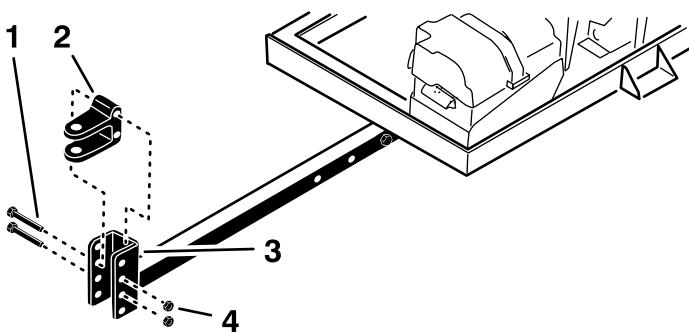

Figure 5
- Remove the 2 bolts and 2 locknuts securing the hitch clevis (Figure 5) to the hitch tube.
- Assemble the hitch clevis to the hitch tube with the 2 bolts and 2 locknuts (Figure 5).